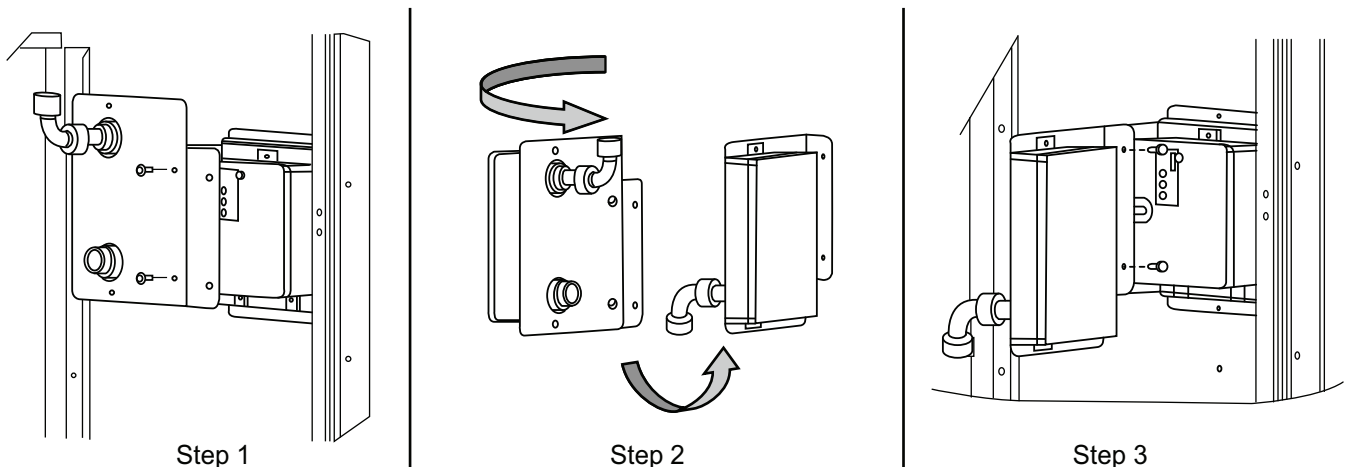

Fig. 67 — Completing Installation of Return Air Smoke Sensor
1. Unscrew the two screws holding the return air smoke detector assembly. See Fig. 67, Step 1. Save the screws.
2. Turn the assembly 90 degrees and then rotate end to end. Make sure that the elbow fitting is pointing down. See Fig. 67, Step 2.
3. Screw the sensor and detector plate into its operating position using screws from Step 1. See Fig. 67, Step 3.